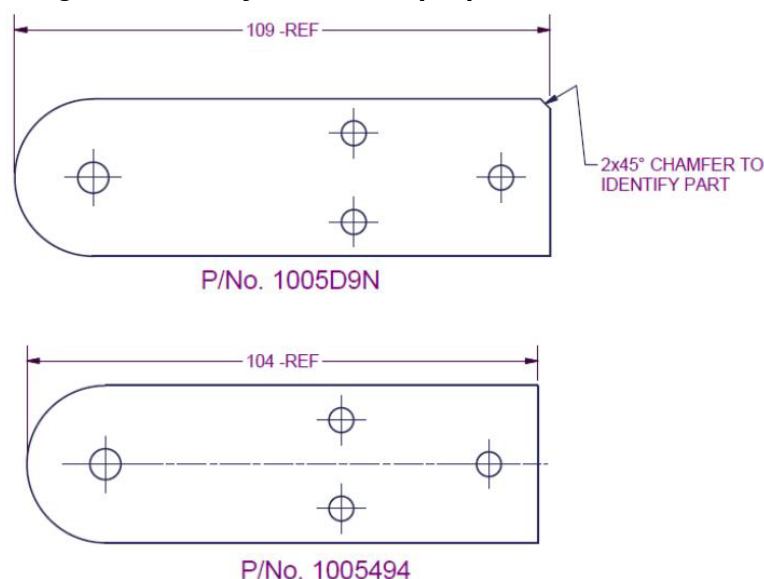

Figure 28 – Wing Lug Versions
- Dry fit the replacement lugs to check for correct fit. When ordering replacement parts note Figure 28: 2 different model lugs have been used on Jabiru Aircraft; the correct length must be fitted or dihedral angle errors will occur.